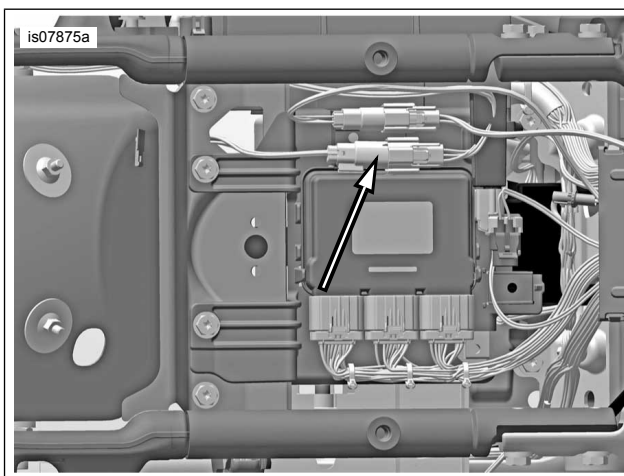

Figure 4. Separate Rear Lighting Connector [7]
15. **2010–2013 models:** Plug the Curved License Plate Frame harness connector into the capped four-way Deutsch P&A Accessory connector [4]. This connector is located under the seat, in front of the Electronic Control Module (ECM). If the P&A Accessory connector is already in use, a dual accessory harness (Part No. 70264-94) is available from a Harley-Davidson dealer. **2014-later models:** Get the license plate lamp Y-harness (11) from the kit.
- a. See Figure 4. Separate the black six-way Molex rear lighting connector [7] on top of the Electronic Control Module (ECM) caddy.